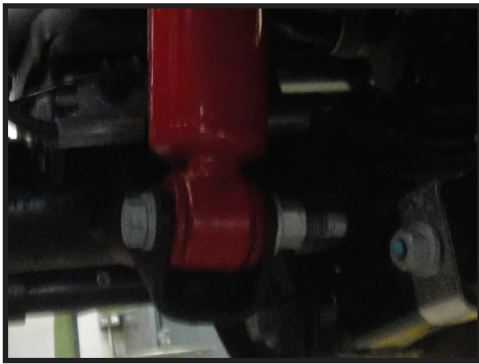

FIG.3
4. Remove the nut from the front lower shock mount using an 18mm. [FIGURE 3]